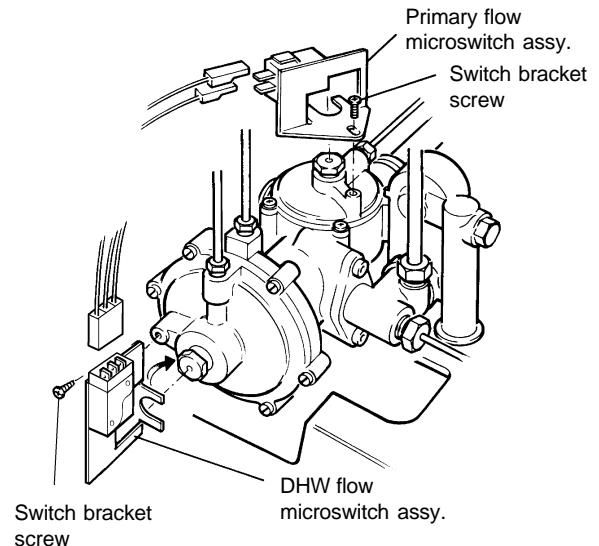

Fig. 28
8.20 DHW AND PRIMARY FLOW SWITCHES - Fig. 28
PRIMARY flow switch (back of diverter valve), red wires to terminals as shown in Fig. 28.
DHW flow switch (front of diverter valve), Connect the plug to the switch shown in Fig. 28.